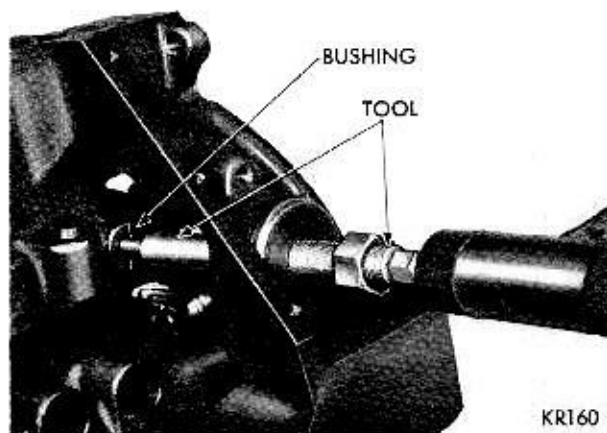

Fig. 27—Installing Distributor Drive Shaft Bushing
(1) Slide a new bushing over burnishing end of Tool C-3053 and insert tool bushing into the bore.
(2) Drive bushing and tool into position, using a hammer (Fig. 27).